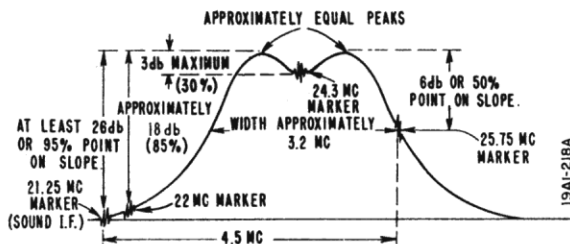

Figure 28. Overall IF Amplifier Response Curve.
- Alignment adjustments, connection points, and response curves are shown in figs. 28, 29, 30.